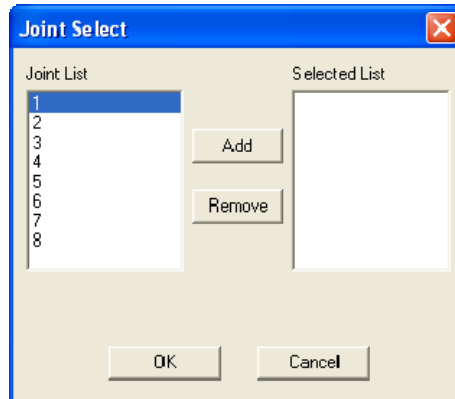

Figure 3-7 Joint Select dialog box
- . Choose the JOINTS button. The dialog box of Figure 3-7 appears.